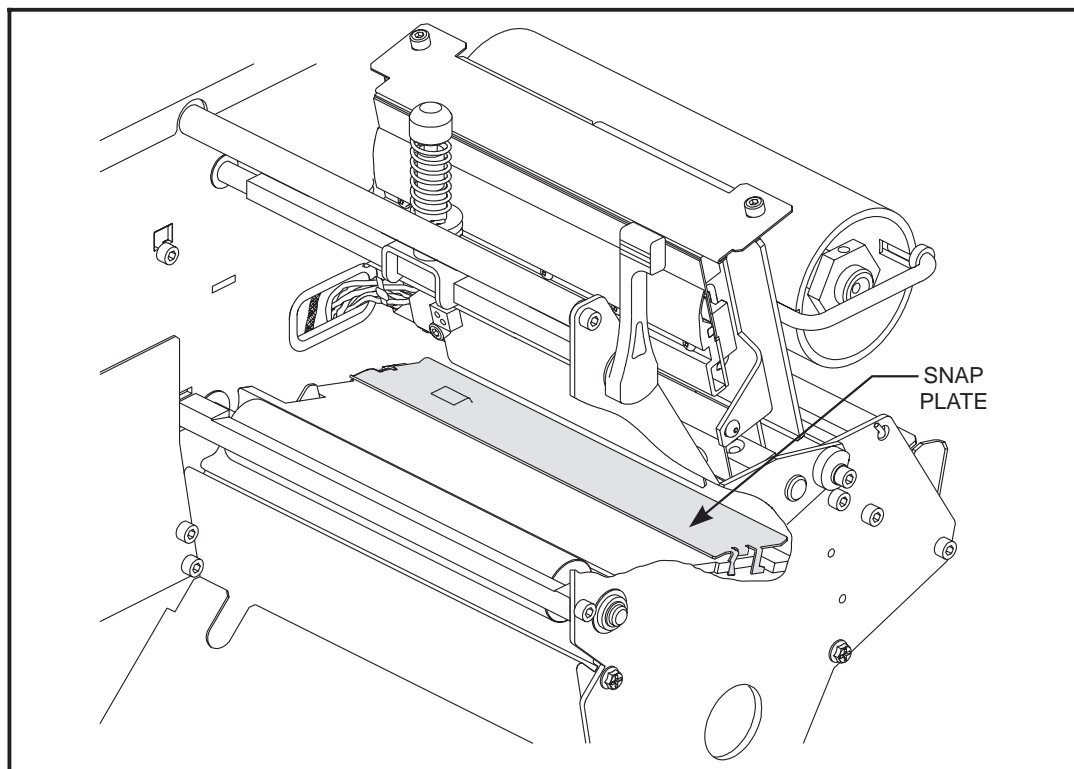

Figure 4.2 Snap Plate Cleaning
In the event of a label jam, the Media Guide Plate (Snap Plate) can be removed and cleaned. Refer to Figure 4.2 and follow these steps.
5. Replace the Snap Plate by placing the back legs in the openings in the Main Media Guide while sliding it to the rear of the openings and snapping it down into place. Refer to Figure 4.2.